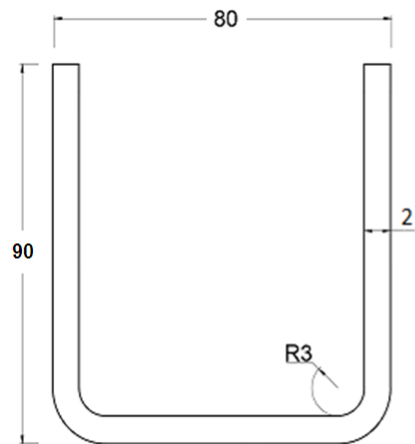

Fig No.2
3. (a) A circular cup as shown in figure no. 2 is manufactured by using deep drawing operation. (Material: MS Cup, Thickness: 2mm, Yield Strength: 35 kgf/mm2). Determine following. 20